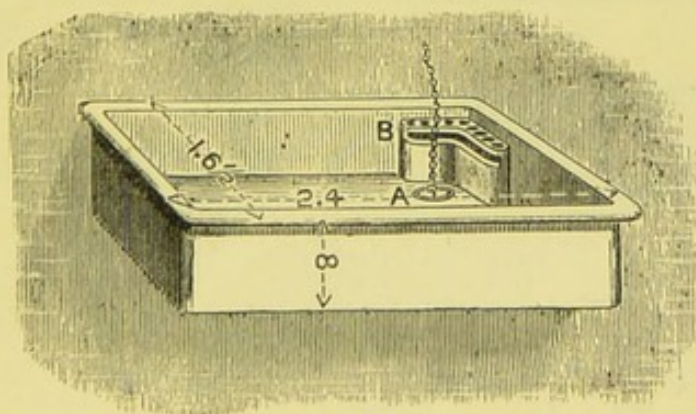

FIG. 112.—View of "Nursemaid's" Sink.
Fig. 112 shows a *strong white-ware* sink, Earthen-ware sink.
- O.—“*Washing-up*” sink.—See Fig. 31, p. 97; also see Figs. 112 and 113, pp. 247 and 248.